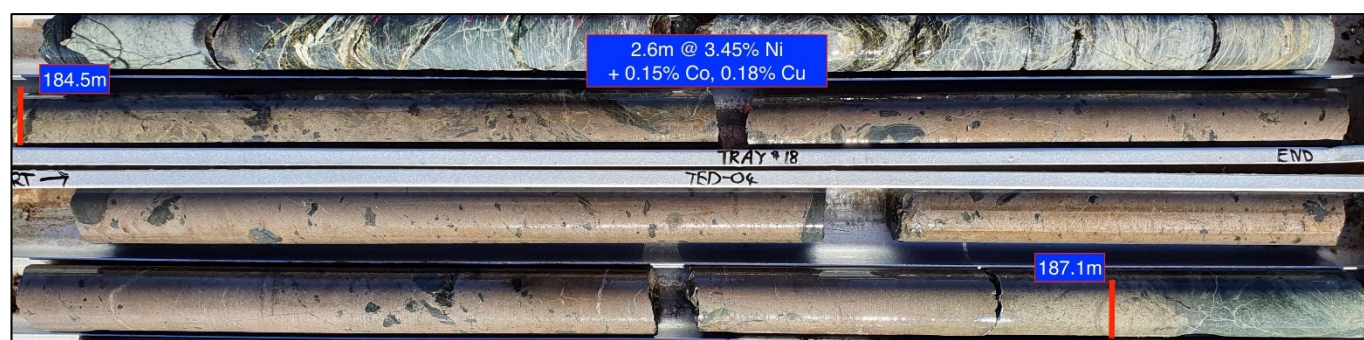

Figure 1: Photo of massive nickel sulphide intersection in diamond hole TED04.
- AVERAGE NICKEL GRADE IN THE TED04 INTERSECTION IS 2.6M @ 3.45% NICKEL FROM 184.5M DOWNHOLE (FIGURE 1).
Toro Energy Limited (**ASX: TOE**) ('the **Company**' or '**Toro**') is very pleased to announce that recently returned geochemical assay results have confirmed the discovery of massive nickel sulphides at the Dusty discovery on the Company's 100% owned Yandal Gold Project ('the **Project**') with the 2.6m intersection reported in diamond drill hole TED04 averaging 3.45% nickel from 184.5m downhole (refer to **Figures 1, 2, 3, 4 and 5**, and **Appendix 1 and 2** for all drill hole details and significant figures used in average grade calculations). A JORC Table 1 Report for the Project is contained in **Appendix 3**.